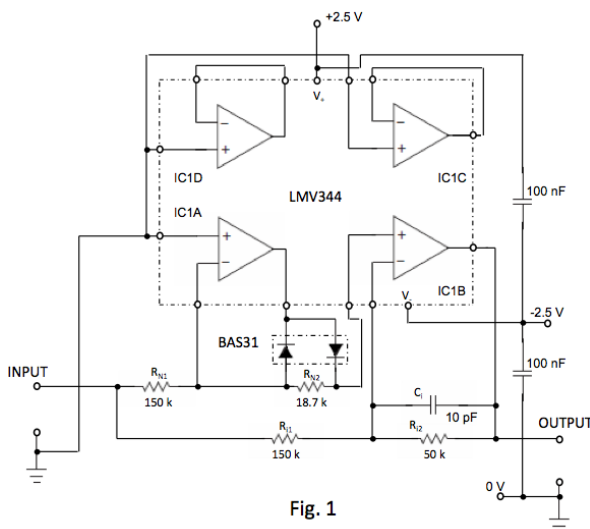

Fig. 1
The isolation amplifier circuit of Figure 1 is simple but accurate. With the values shown it converts 0 to 5V DC or low frequency signals with unity gain, but you can adjust the gain by changing R4.
In some applications, a linear amplifier is required which has different gains with regard to the polarity of the input signal. Figure 1 shows an inverting amplifier which is linear within the second and fourth quadrants of the  $V_{OUT}(V_{IN})$  plane, but the magnitude of its gain in the fourth quadrant is higher compared to the second. The op amp IC1B acts as a differencing amplifier with a gain of:
**Figure 1** Inverting amplifier is precisely linear within second and fourth quadrants of  $V_{OUT}(V_{IN})$  plane; and has different voltage gains in these quadrants.